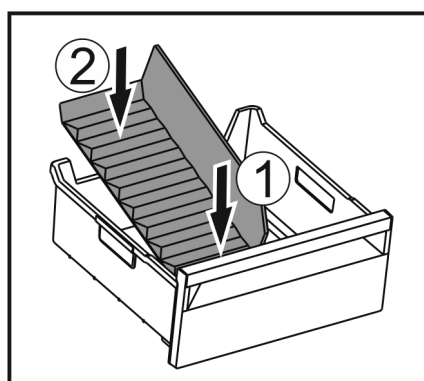

Fig. 122
- ▶ Insert the front part of the ice compartment divider. Fig. 122 (1)
- ▶ Lower the rear part of the ice compartment divider to the drawer bottom. Fig. 122 (2)